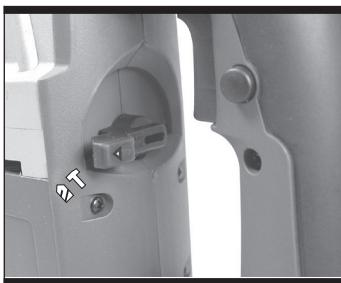

Fig 8
2. Adjust the lever selector to position “ $\text{A} \text{ T}$ ” to provide the hammer action (see Fig8)